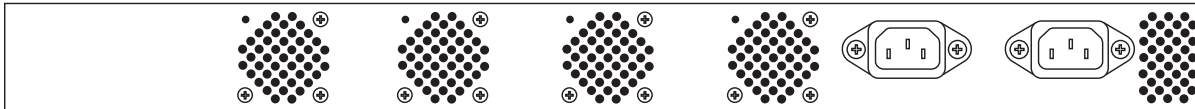

Figure 2. Filtering Link Aggregation Tap rear access panel, featuring outlets for both primary and redundant AC power supplies.
The rear access panel for all Filtering Link Aggregation Tap models is shown below in **Figure 2**.
2. Turn on the Filtering Link Aggregation Tap by plugging each of the FATAP's AC power cords into separate power circuits (**Figure 2**). Each **POWER** LED indicator on the left side of the FATAP's front panel will illuminate, verifying that primary and redundant power supplies are active.